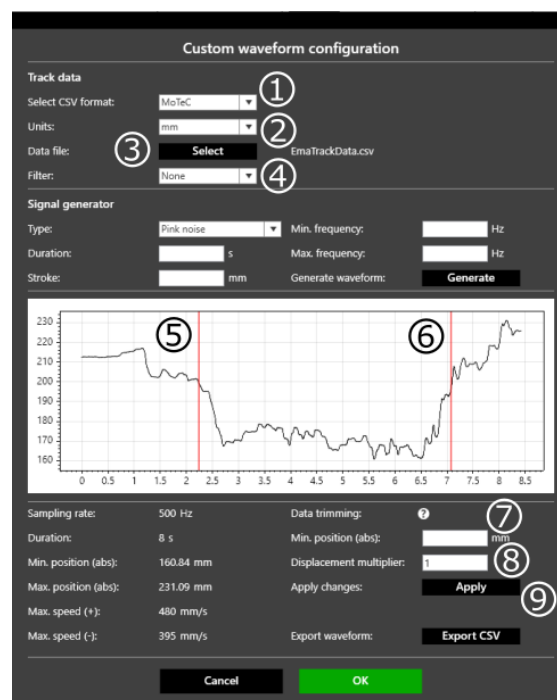

Figure 38
1. Select CSV format according to the telemetry device the user used (Figure 38 – Step 1).
2. Select units (Figure 38 – Step 2).
3. Press **Select** and select the file you want to use for the test (Figure 38 – Step 3).
5. Select filtering (optional) (Figure 38 – Step 4).
6. If the user does not need to simulate the whole file, he is allowed to trim the it. To do that, press and hold shift-key, set the first trimming line on the desired place of the curve (Figure 38 – Step 5), then, while the shift-key is still being pressed, set the second trimming line (Figure 38 – Step 6).
7. The user is also allowed to manually set the minimum position of the damper (Figure 38 – Step 7).
8. The user is also allowed to manually set the Displacement multiplier (Figure 38 – Step 8).
9. Press **Apply** (Figure 38 – Step 9).